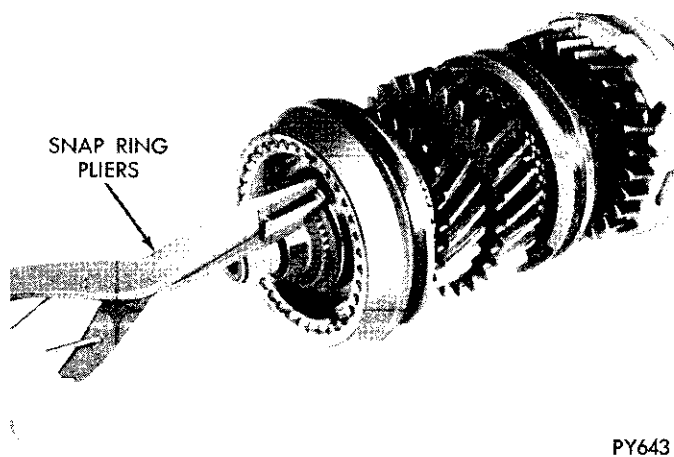

Fig. 14—Snap Ring—2nd-3rd Synchronizer Clutch Gear to Mainshaft—Removal or Installation
(1) Remove the snap ring from front end of mainshaft which retains the 2nd-3rd synchronizer clutch gear (Fig. 14).
(23) Install 2nd-3rd clutch gear snap ring on shaft (Fig. 14).
(24) Move 2nd-3rd synchronizer sleeve forward as far as practical (limited by need to retain struts in place) and install front stop ring (coated with grease to hold it in position) inside sleeve with lugs indexed to struts.